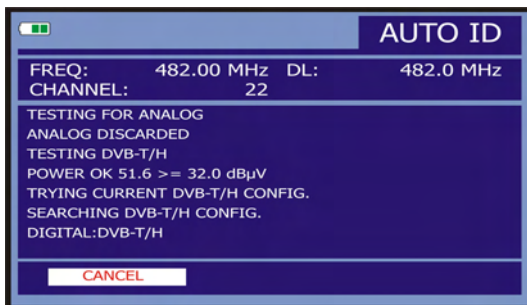

Figure 47.- Automatic identification of the signal.
4. Enter parameters manually to lock signal or press  [25] (Automatic Identification) for an automatic identification of the signal (Figure 47.-).